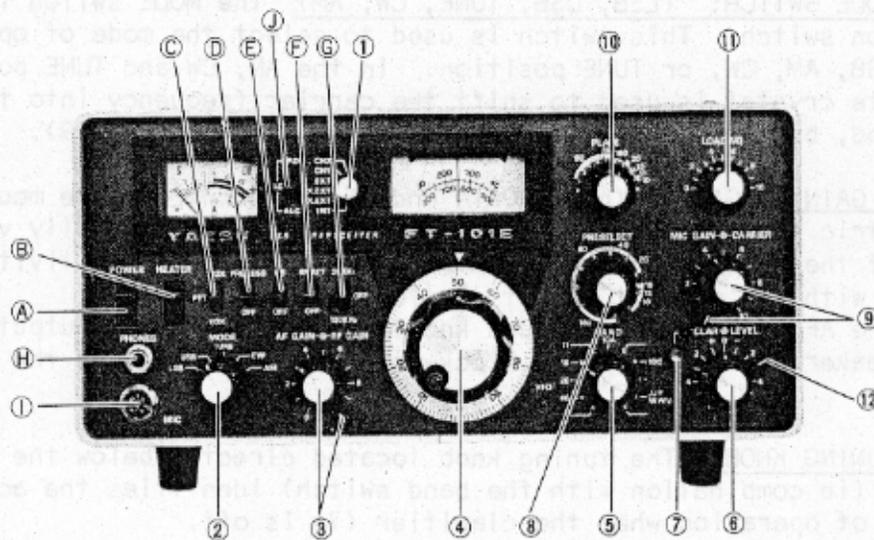

Fig. 2-1
Band selection is accomplished by switching the eleven (11) position band switch (item 5 of Fig. 2-1) so that the index mark on the knob is aligned with the desired band mark silk screened on the panel.
With the band selector on the desired band, the tuning dial should now be examined. (Fig. 2-1)